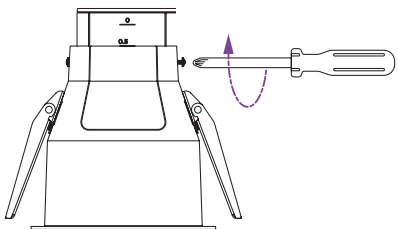

fig. 19
3. Reattach the Phillips set screws (see fig. 19).